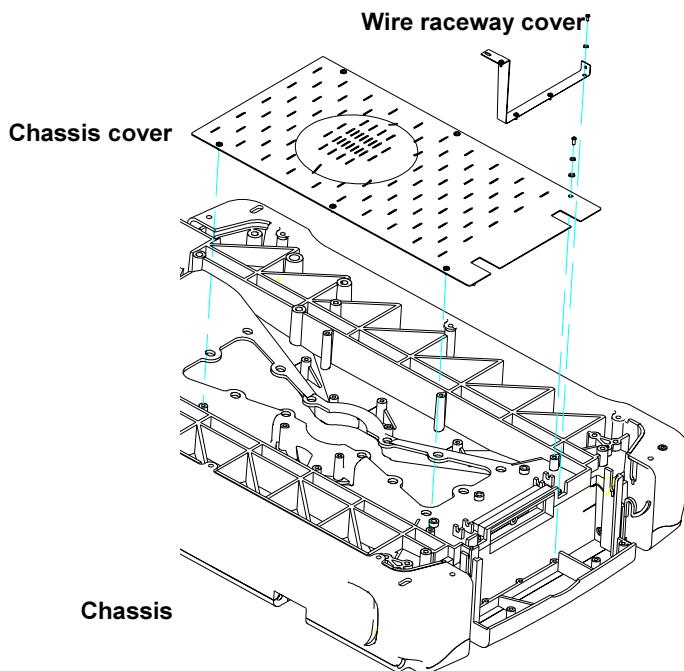

Figure 5-24
5.61 Removing the chassis cover with the storage drawer in place (Fig. 5-24)
5.9 Humidifier Repairs(Figures 5-24 and 5-26)